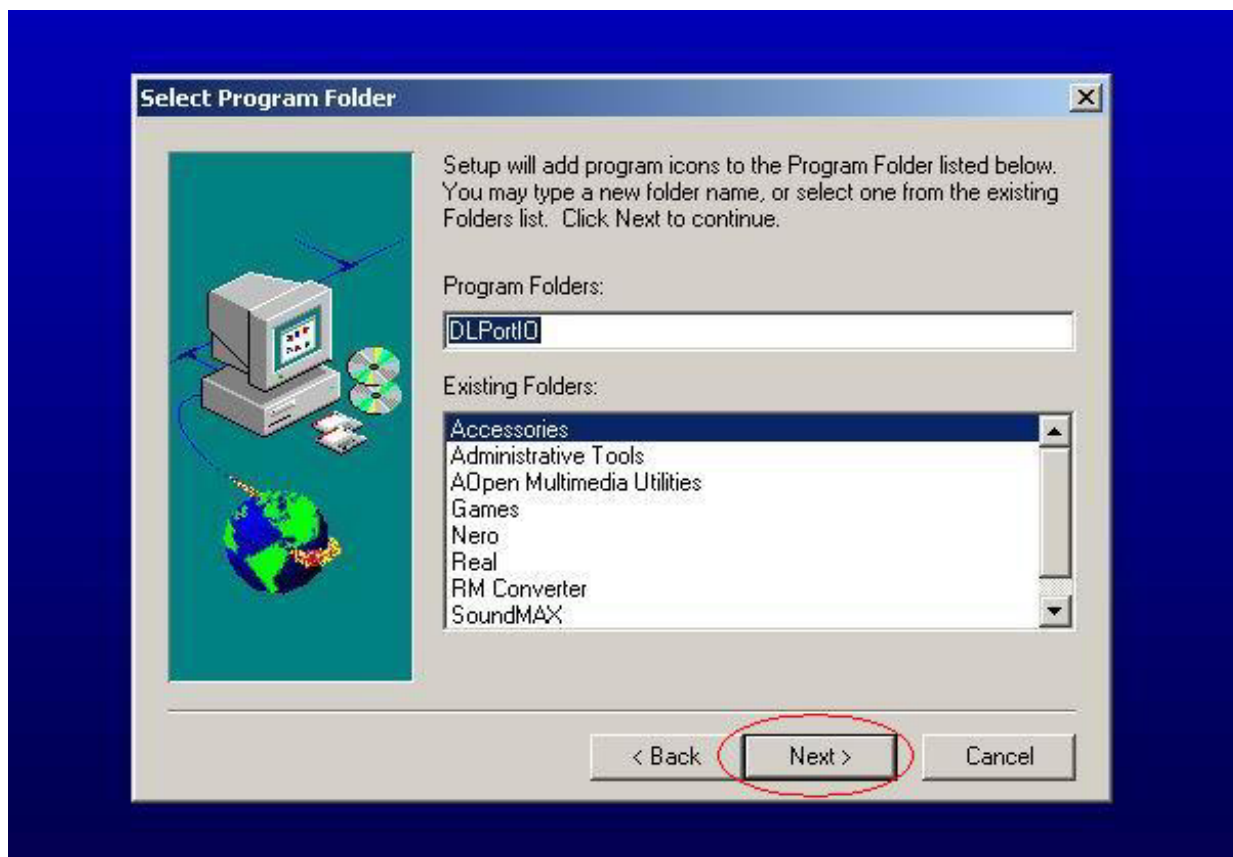

Fig. 0.4
5. Keep on press “ Next “ 4 times to go through the installation processes, see Fig. 0.4